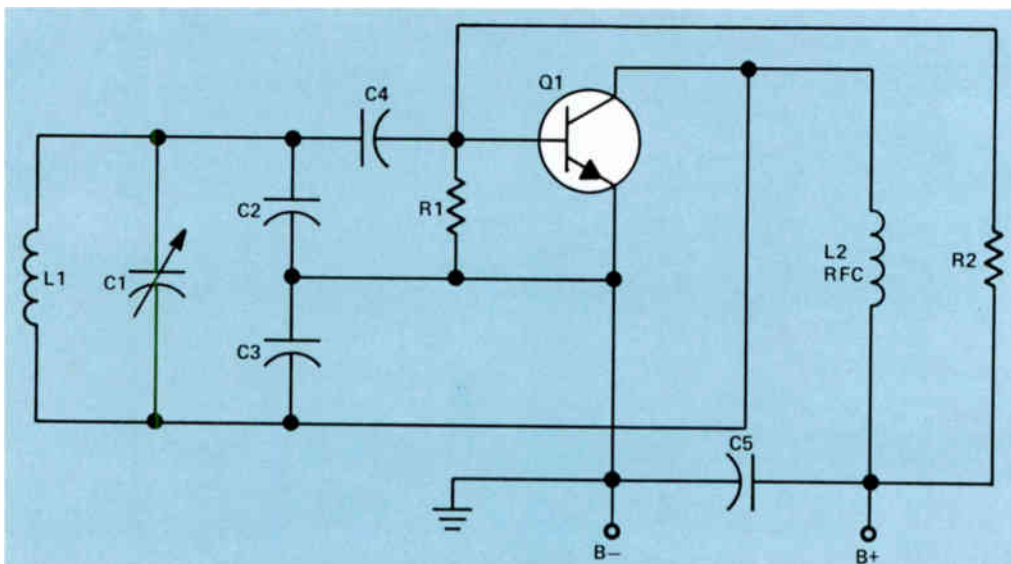
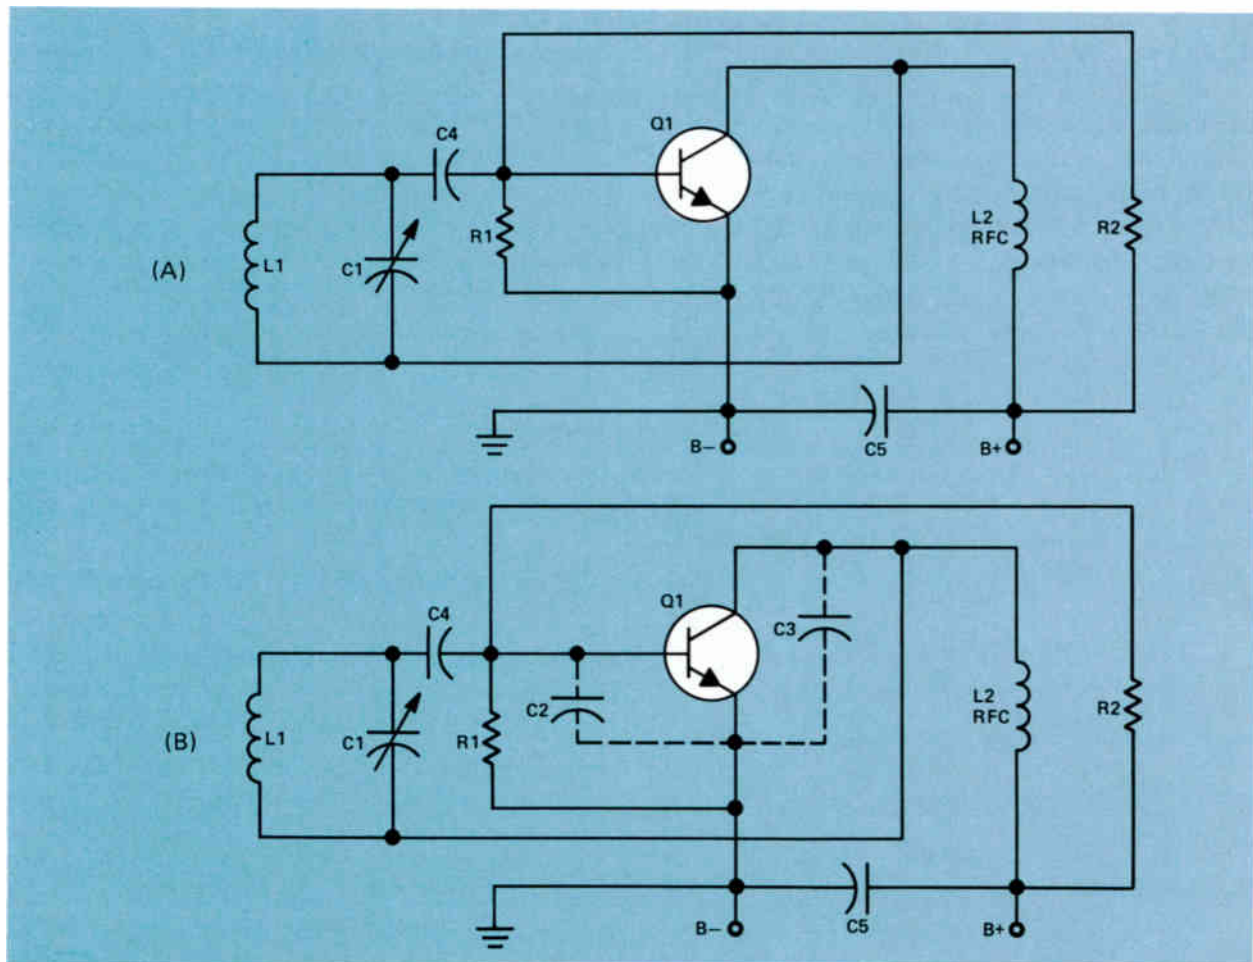

Figure 8. A variation of the Colpitts oscillator.
Figure 9. (A) The ultra-audion circuit. (B) The same circuit with internal transistor capacities added.
One variation of the Colpitts oscillator is shown in Fig.8. Here we have capacitor C1 connected across L1, in addition to the voltage divider capacitors C2 and C3. Notice that in the circuit, the collector of the transistor is fed back directly to L1, C1, and C3. The choke coil has been removed from the emitter circuit and the emitter is connected directly to ground.
The Ultra-Audion Oscillator. A modified form of the Colpitts oscillator that is frequently used in the vhf region is shown in Fig.9. This circuit is called the ultra-audion oscillator. When the circuit was first developed, it was thought to be a new type of oscillator. However, careful analysis shows that it is really a Colpitts oscillator similar to the one shown in Fig.8.
Figure 9(A) is the schematic diagram of an ultra-audion oscillator and Fig.9(B) shows the ultra-audion oscillator with the transistor capacitances, drawn in dashed lines, that exist between the collector and emitter, and between
the base and emitter. We have used the same designations to identify the parts in the circuit shown in Fig.8 and Fig.9(A) so that you can see the similarity between the two circuits. The capacitors represented by the dashed line connections in Fig.9(B) are the internal capacities of the transistor which are not added into the circuit as external parts. However, in the vhf region, these capacitances are large enough to take the place of the actual capacitors used in the low-frequency oscillator shown in Fig.8. You should learn to recognize this circuit as a form of the Colpitts oscillator because it is widely used at high frequencies. Of course, manufacturers do not draw the internal transistor capacitors on schematic diagrams, so the circuit looks like Fig.9(A) rather than Fig.9(B).